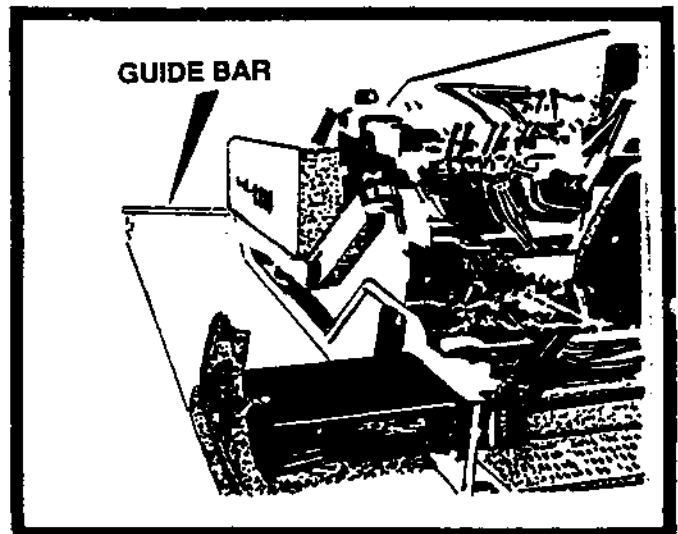

FIGURE 14
- B. Make sure to use a reference guideline. This can be a curb, gutter, adjacent mat or a string line. It is important that the first pass be straight as it will be the guideline for the following passes. Use the guidebar gauges as shown in figure 14.